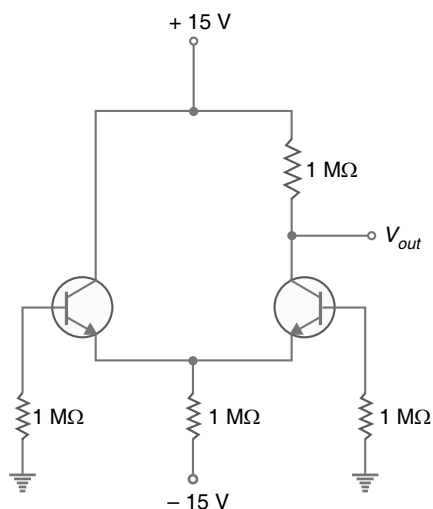

Fig. 23.25
**Example 23.11.** In Fig. 23.25, the left transistor has  $\beta_{dc} = 90$  and the right transistor has  $\beta_{dc} = 110$ . Find (i) the input offset current (ii) input bias current. Neglect  $V_{BE}$ .